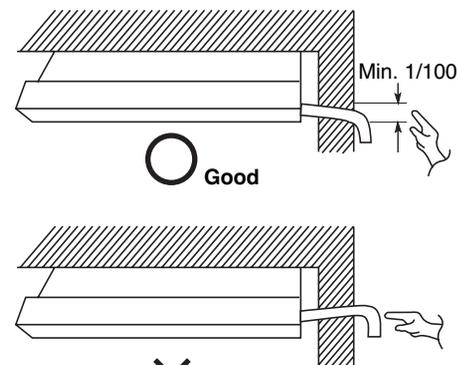

Fig. 3-89
- Connect the drain piping so that it slopes downward from the unit to the outside. (Fig. 3-89)